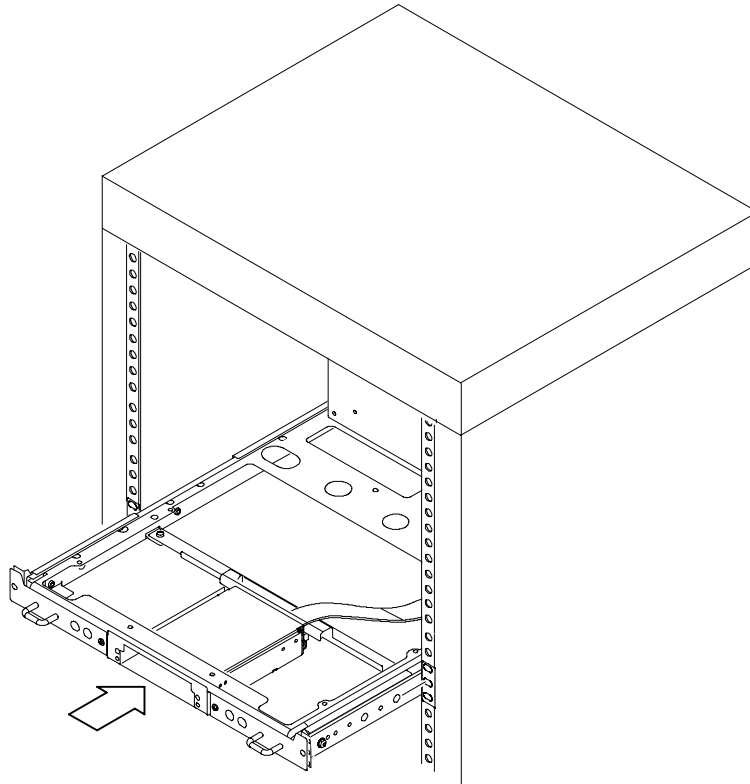

Figure 9: Installation of rack plate assembly in rack (top view)
6. Install the rack platform in your equipment rack by inserting the platform into the slides as shown in Figure 9.